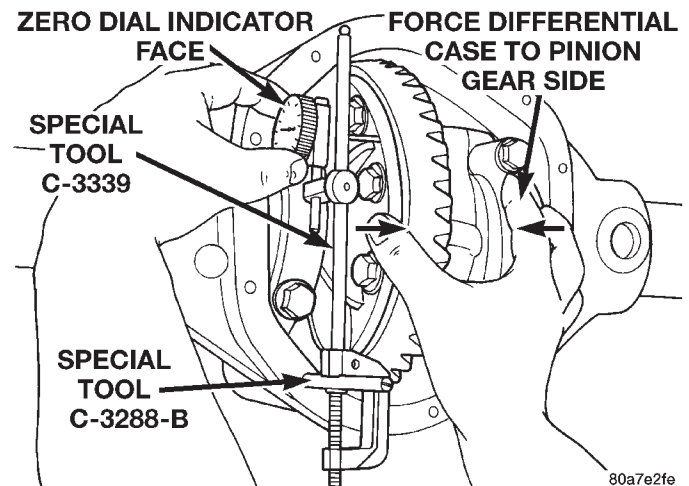
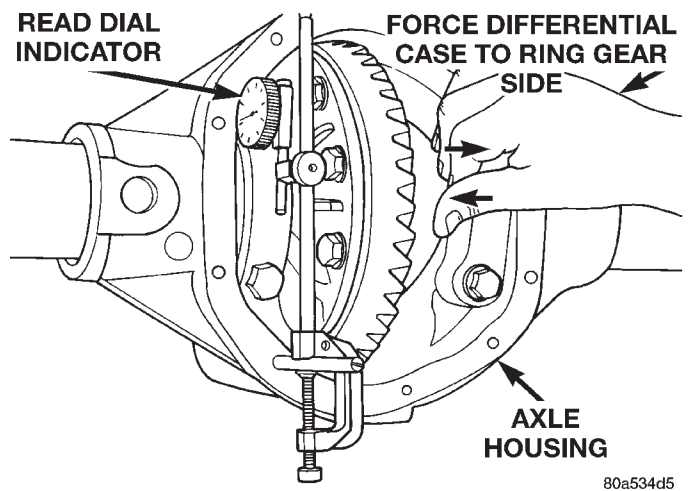

Fig. 87 Hold Differential Case and Zero Dial Indicator
Fig. 88 Hold Differential Case and Read Dial Indicator
- (10) Push firmly and hold differential case to pinion gear side of axle housing (Fig. 87).
- (11) Zero dial indicator face to pointer.
- (12) Push firmly and hold differential case to ring gear side of the axle housing (Fig. 88).
- (13) Record dial indicator reading.
- (14) Add the dial indicator reading to the starting point shim thickness to determine total shim thickness to achieve zero differential end play.
- (15) Add 0.006 in. (0.152 mm) to the zero end play total. This new total represents the thickness of shims to compress, or preload the new bearings when the differential is installed.
- (16) Rotate dial indicator out of the way on guide stud.